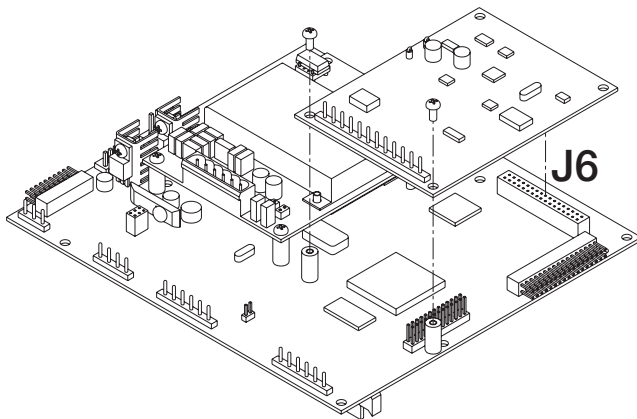

Figure 1. Installing Option Card Onto 920i CPU Board
4. Use the screws and lock washers provided in the option kit to secure the other end of the option card to the threaded standoffs on the CPU board (see Figure 1).